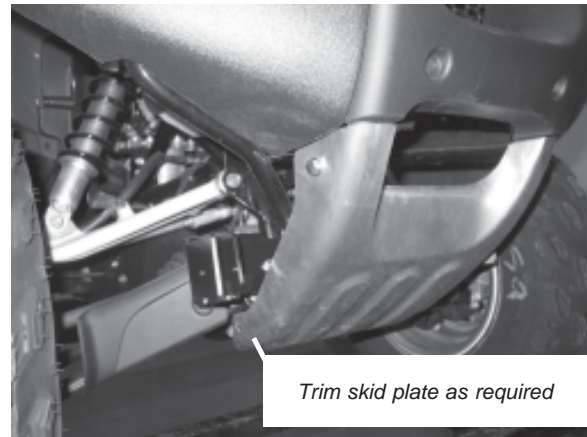
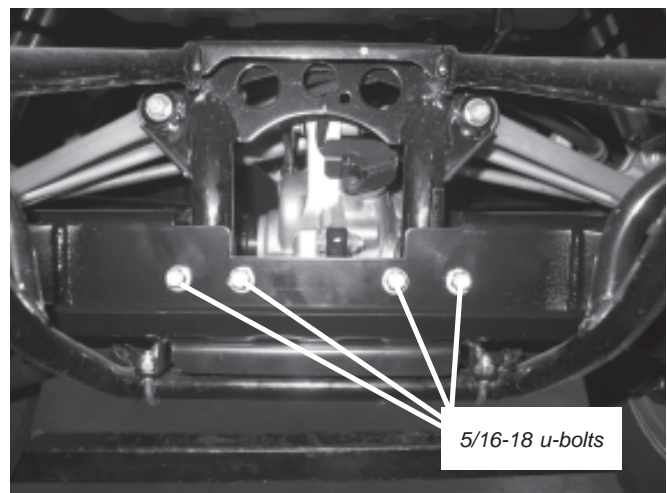

Figure 7
Figure 12
- Once mounts are secured in place, replace front aluminum skid plate on vehicle, as shown in Figure 7. Some trimming may be required in the area of the plow mount to allow skid plate to bolt up to original mounting location.
4. Install 5/16-18 u-bolts around vehicle frame and through back side of plow mount assembly as shown in Figure 12. Torque hardware to 17lb. ft. (22.5 N-m). Once mount is secured in place, replace the front aluminum skid plate on vehicle, shown in Figure 7 of previous section. Some trimming may be required in the area of the plow mount allowing skid plate to bolt up to original mounting location. See Figure 8 of previous section for completed installation.